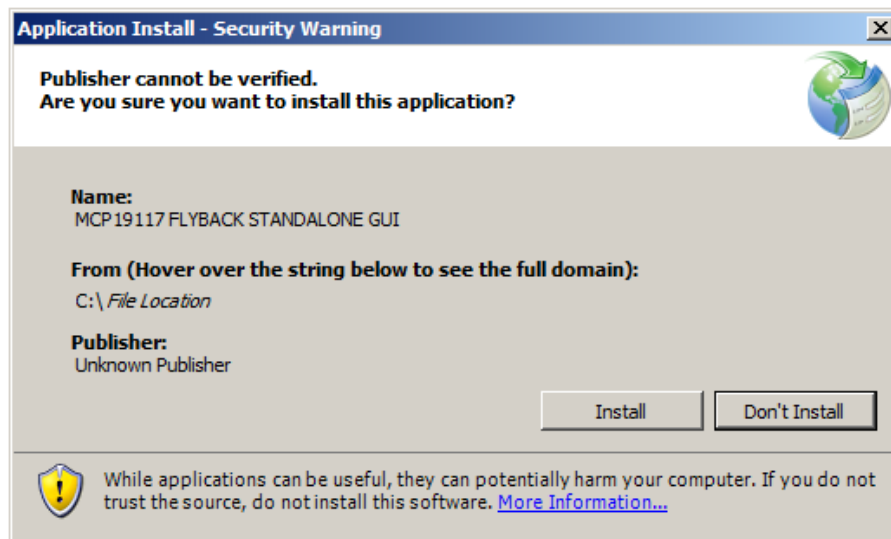
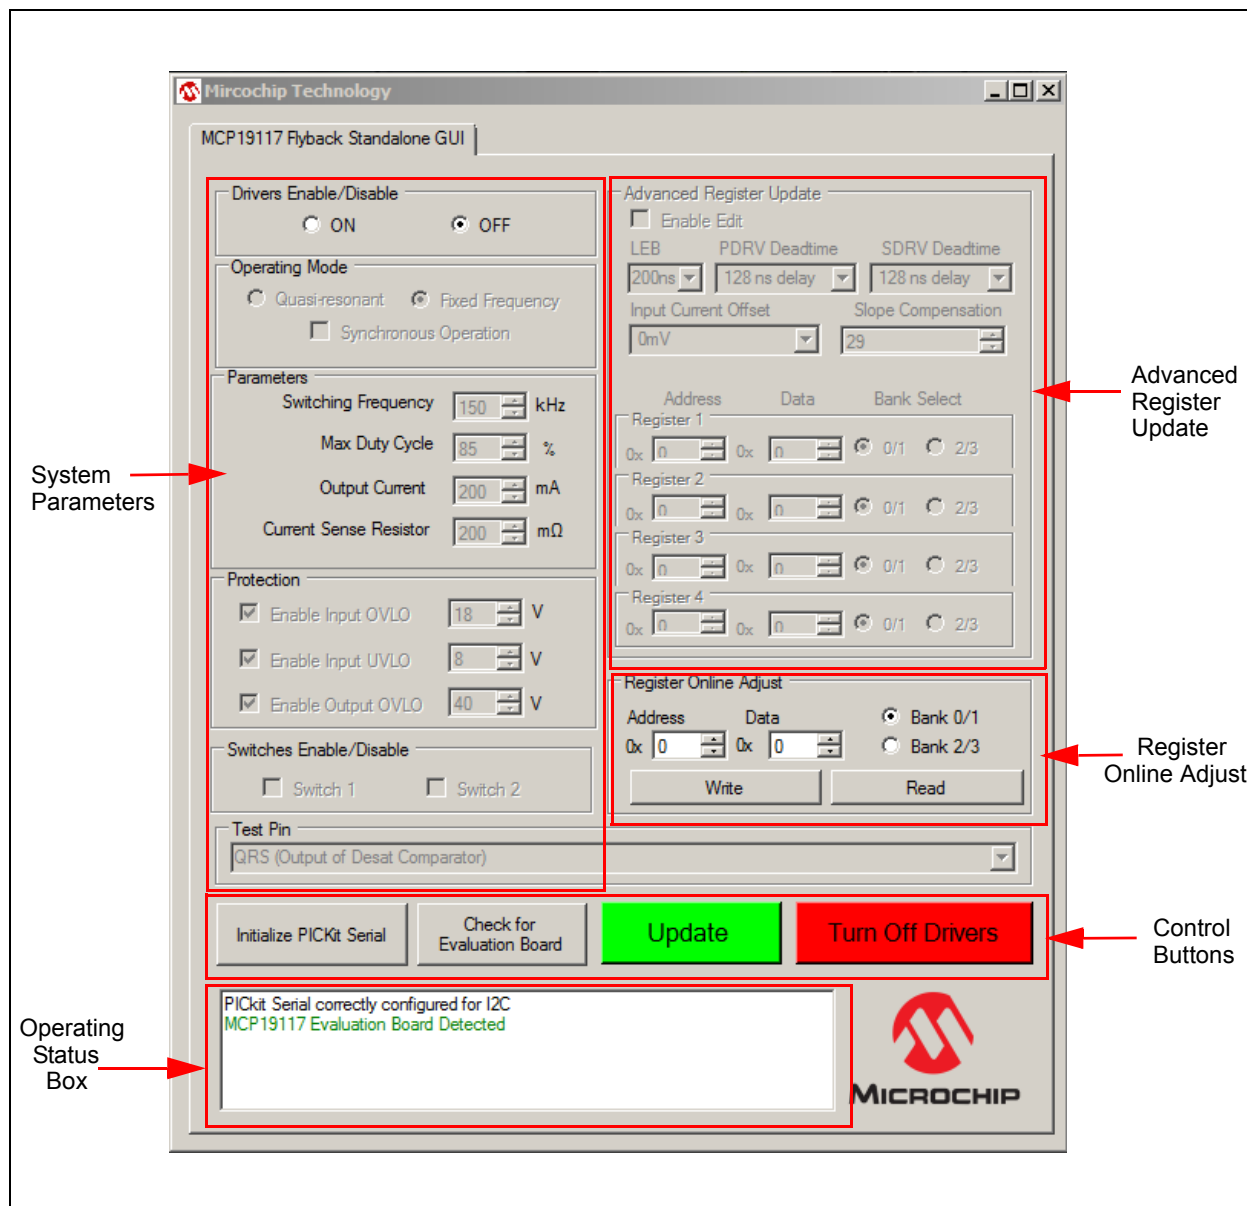

FIGURE 2-2: MCP19117 Flyback Standalone GUI Installation Window.
FIGURE 3-2: MCP19117 Flyback Standalone GUI - Initial Screen.
3. Double-click the `setup.exe` file to start software installation. Press the **Install** button in the Application Install window (Figure 2-2). After the installation completes, the application window is displayed (as shown in Figure 3-2 of Chapter 3. "Graphical User Interface (GUI) Features").
The interface detects the MCP19117 device automatically and is ready for use (see Figure 3-2).
As depicted in Figure 3-2, the MCP19117 Flyback Standalone GUI is divided into five areas: